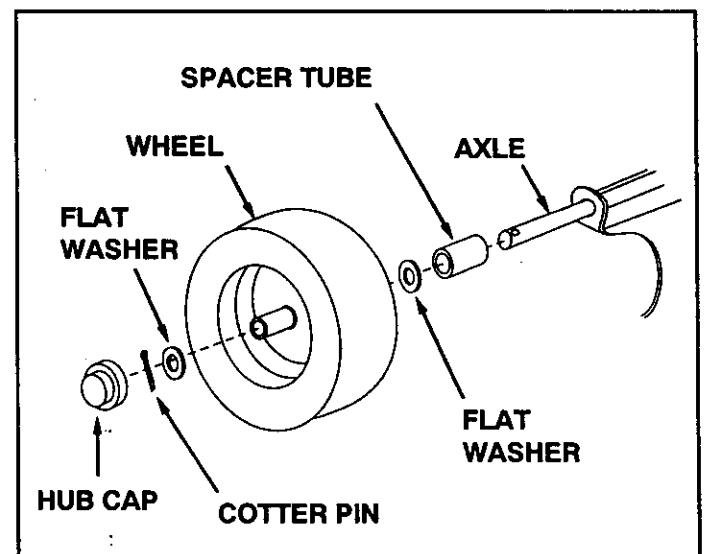

FIGURE 11
- Assemble a spacer tube onto each end of the axle as shown in figure 11.
- Assemble a flat washer, a wheel (valve stem facing out), and another flat washer onto the axle as shown in figure 11. Secure the wheel with a cotter pin, spreading the ends so that a hub cap can fit over the pin. Assemble the hub cap by pressing it onto the flat washer. Repeat on other end of axle.